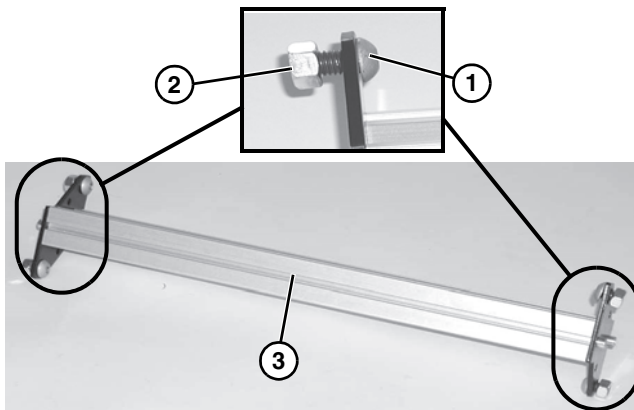

Figure 3
3. Install four button head screws (**Figure 3, item 1**) and hex nuts (**Figure 3, item 2**) on crossmember (**Figure 3, item 3**). Do not tighten screws.